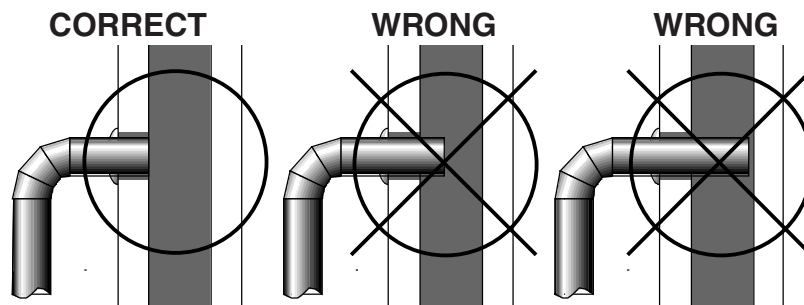

Fig.7 - Stovepipe/Flue Connections
4. The pipe cannot extend into the chimney flue (figure 7).
5. Secure pipe/elbow sections with three (3) sheet metal screws at each joint to make the piping rigid.
6. It is recommended that no more than two (2) 90 degree bends be used in the stovepipe installation. The use of more than two 90 degree bends may decrease the amount of draw and possibly cause smoke spillage. Where possible, use only corrugated (nonadjustable) elbows. These provide a better seal.
2. Install a metal or fire clay (5/8” minimum thickness) thimble. Make sure the thimble is flush with the inner surface of the chimney liner and does not protrude into the flue (see figure 7 on page 6).
4. Install the stovepipe into the thimble as far as possible without extending past the flue lining (see figures 7 & 8 on pages 6 & 7).